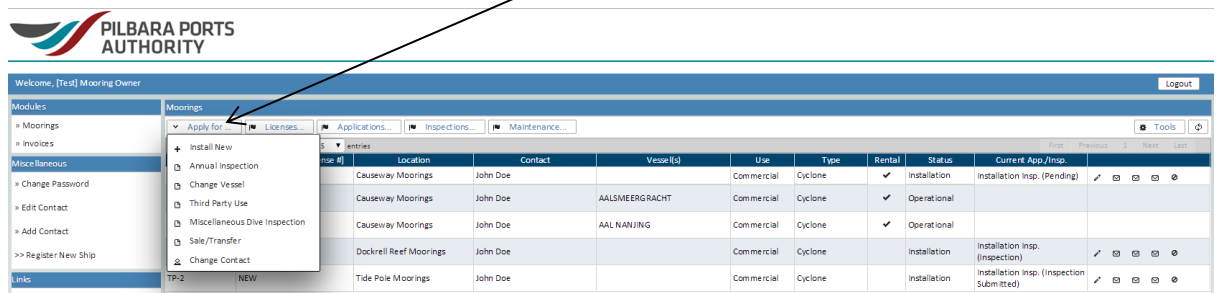

Figure 3.1
- Select ‘Install New’ in the ‘Apply for ...’ drop down box, see figure 3.1.